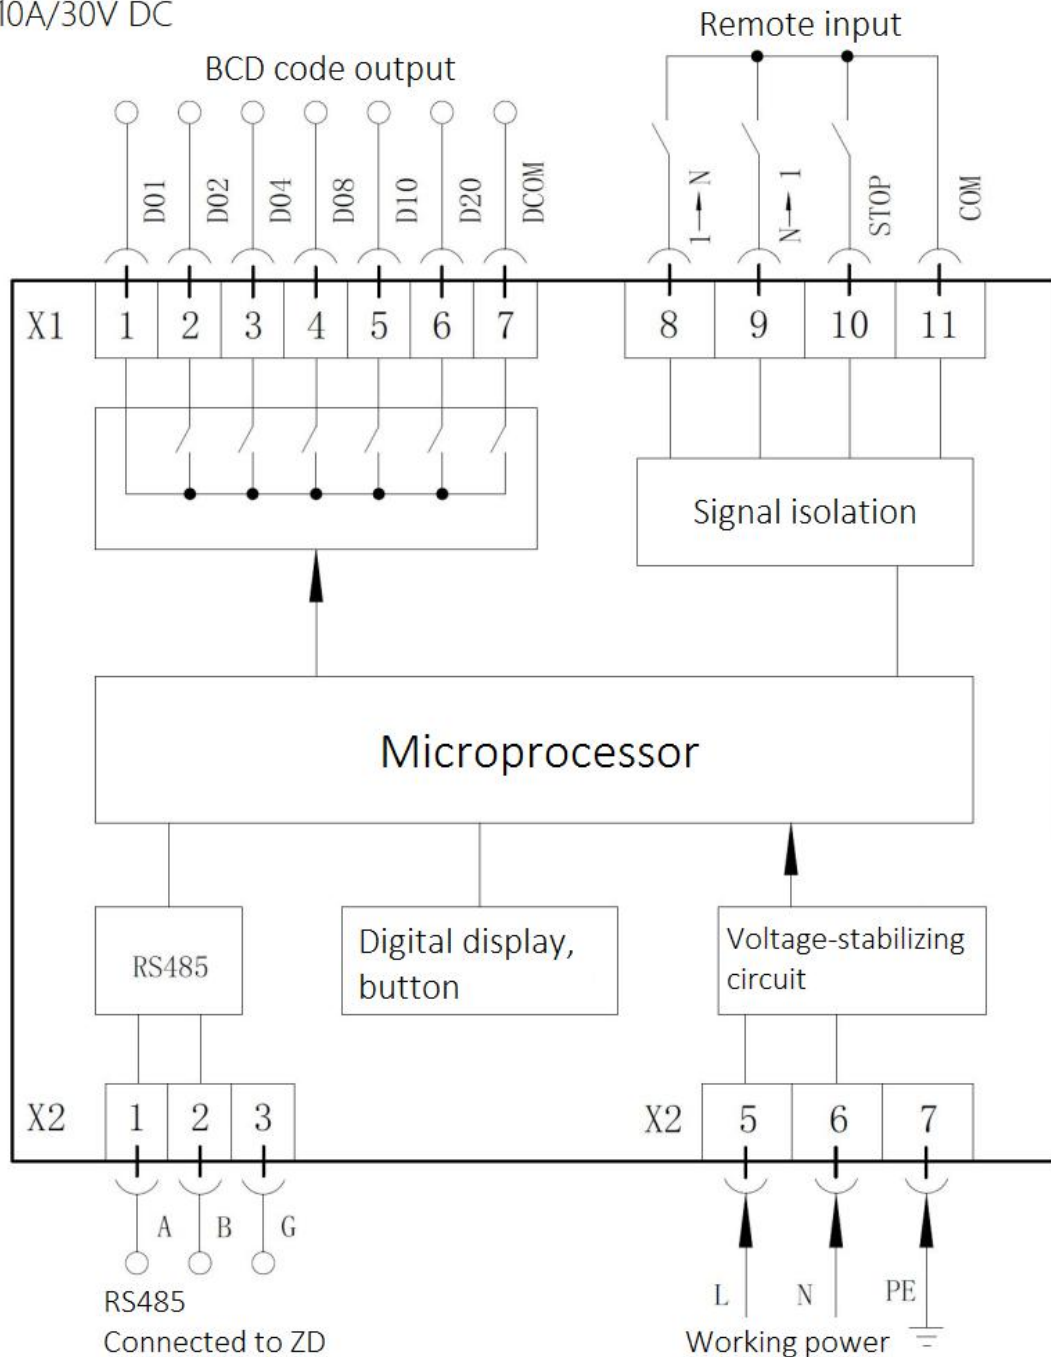

Figure 5 Circuit diagram
6.2 Working principle (see circuit diagram fig. 5)